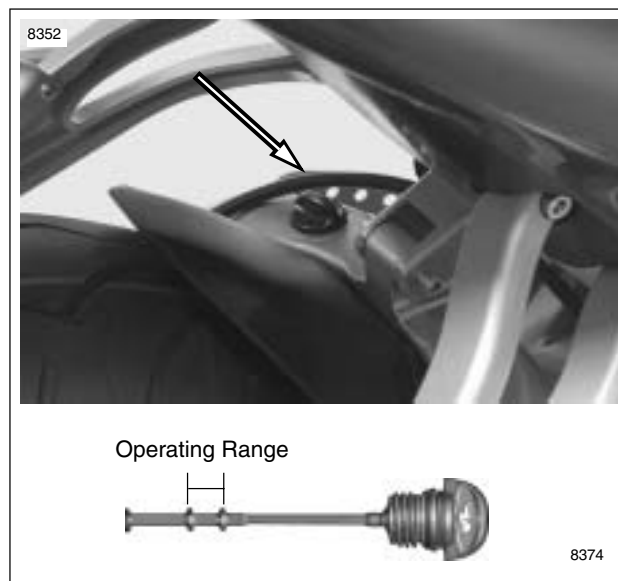

Figure 1-3. Dipstick Location/Engine Oil Level
2. See Figure 1-3. Unscrew and remove dipstick from oil tank/swingarm filler hole. Wipe dipstick clean.